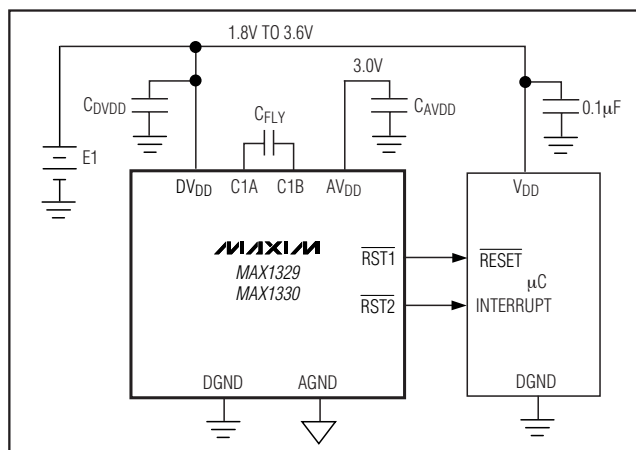

Figure 25. Power-Supply Circuit Using a Battery for DVDD and Internal Charge Pump Set to 3.0V for AVDD
Figure 25 shows DVDD is powered from a battery with the charge-pump output set to 3.0V. The charge pump can draw high peak currents from DVDD under maximum load. Select an appropriately sized bypass capacitor for DVDD ( $\geq 10$  times CFLY). Supply ripple can be reduced by increasing CAVDD and/or the charge-pump clock frequency.
**Table 32. External Component Selection for 25mA Output Current and  $2VDVDD - VAVDD \geq 0.4V$  (Figure 25)**